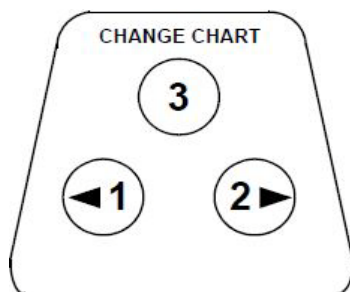

Figure 13. Chart Buttons
2. Press and hold the change chart button (#3 in *Figure 13*) for one second. The pen will move off the scale.
3. Compare the recorder temperature to the solution temperature. If necessary, adjust the recorder by pressing the left and right chart buttons (#1 and #2 from *Figure 13*) for 5 seconds.